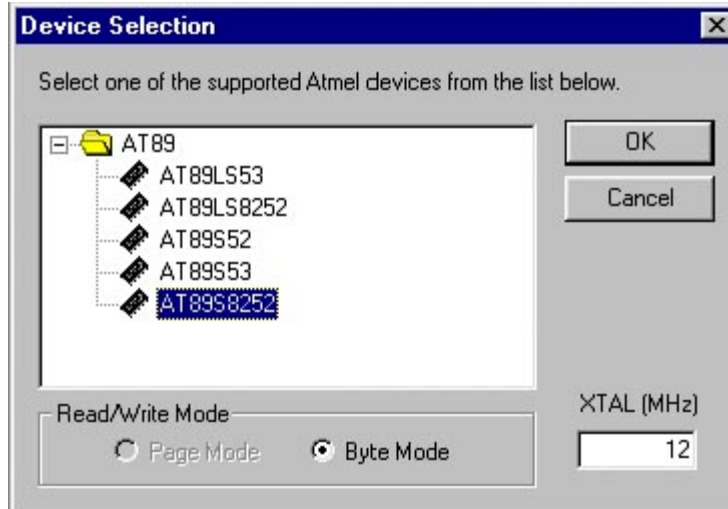

Figure 2 - Device Select Dialog
3. You can then select a device by choosing **Select Device** from the **Options** menu or by clicking  on the toolbar. You should see a dialog box similar to the one in Figure 2.